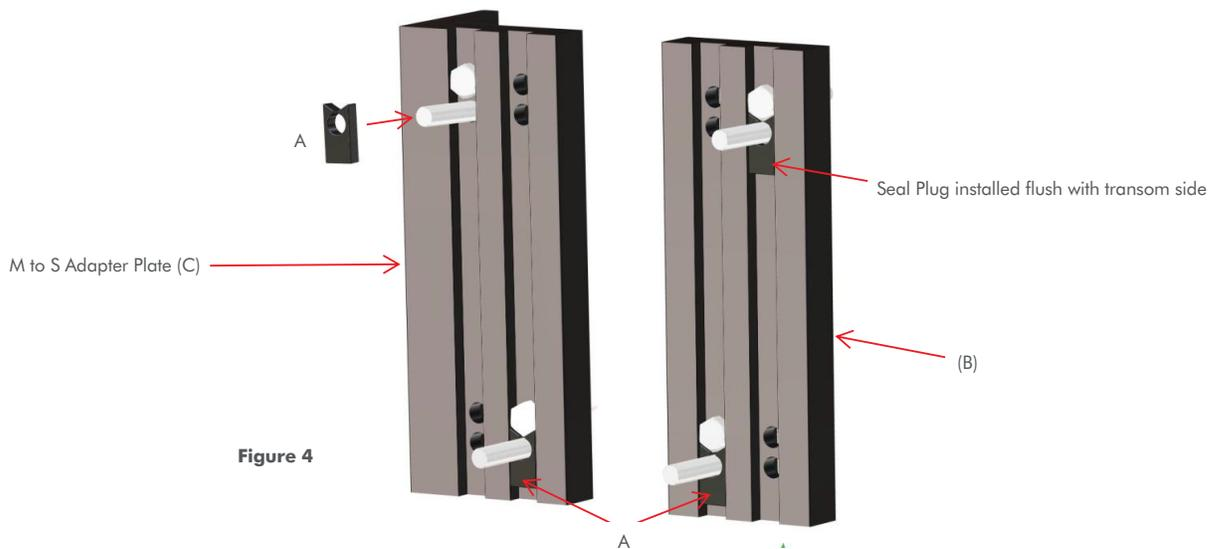

Figure 4
STEP 4: Install the M to S seal plugs(A) onto each transom bolt being used with the M to S Adapter Plate (C) and shim (B) as illustrated (FIG. 4).